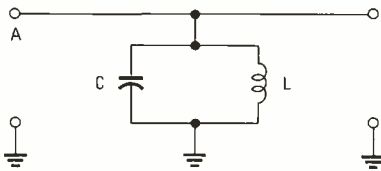

FIG. 4
5. In Fig. 4, if the inductive and capacitive reactances (L and C) are equal the frequency at point A is:
6. The circuit in Fig. 4 would be used as: